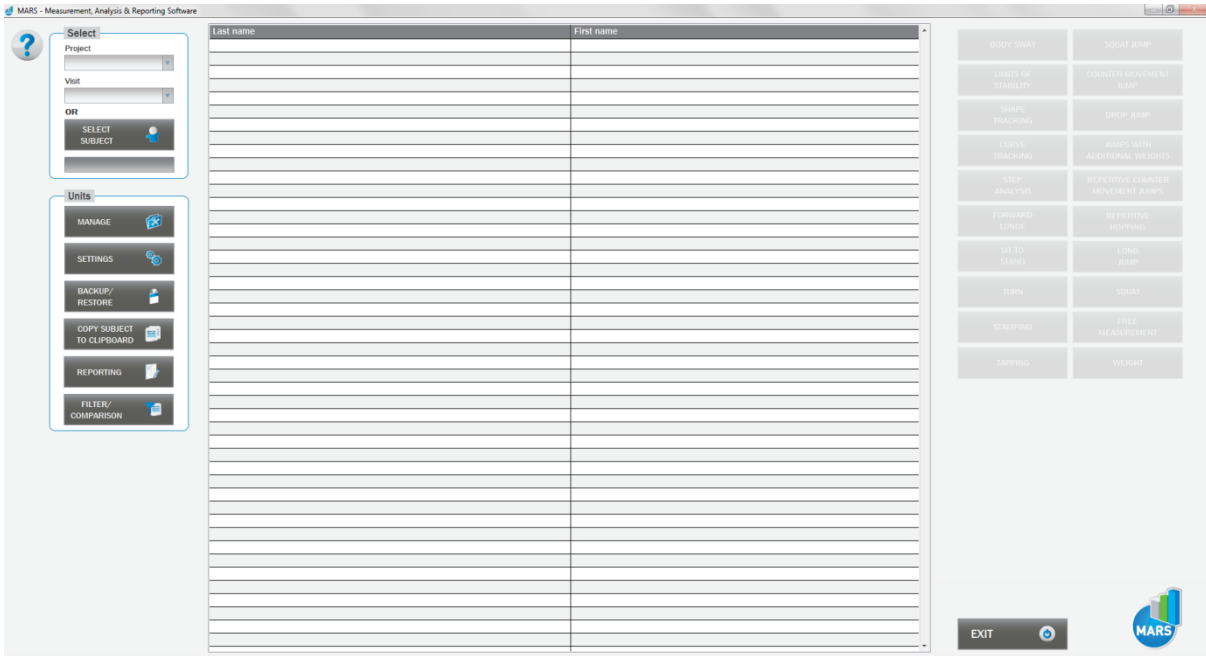

Figure 4.MARS main window.
- Go to **SETTINGS** (Figure 4).